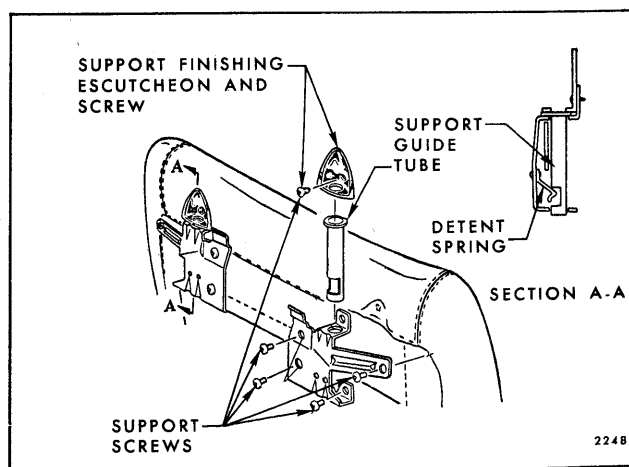

Fig. 10-44—Strato Seat Back Head Rest Support
2. Remove support finishing escutcheon screw and remove escutcheon (Fig. 10-44).
4. To install support guide tube reverse removal procedure. Make certain lower end of plastic guide is inserted into hole in bottom of support and that cut out in guide for detent spring is facing rearward (Fig. 10-44). Check for proper operation of headrest.
3. Remove headrest support finishing escutcheon screw and remove escutcheon (Fig. 10-44).
4. Remove four remaining support attaching screws (Fig. 10-44) and remove support from seat back. Where required, remove support guide from support.
5. To install headrest support, reverse removal procedure. Make certain lower end of plastic guide is inserted into hole in bottom of support and that cut out in guide for detent spring is facing rearward (Fig. 10-44). Prior to tightening support attaching screws, install headrest into supports and align support(s) with headrest arm(s); then, tighten support screws.